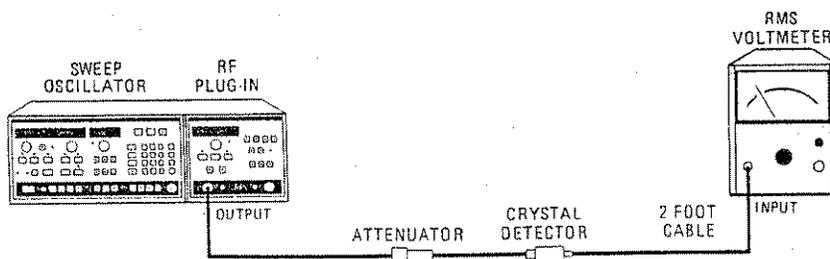

Figure 4--14. Residual AM Test Setup
1. Connect equipment as shown in Figure 4--14 using a 20 dB attenuator.